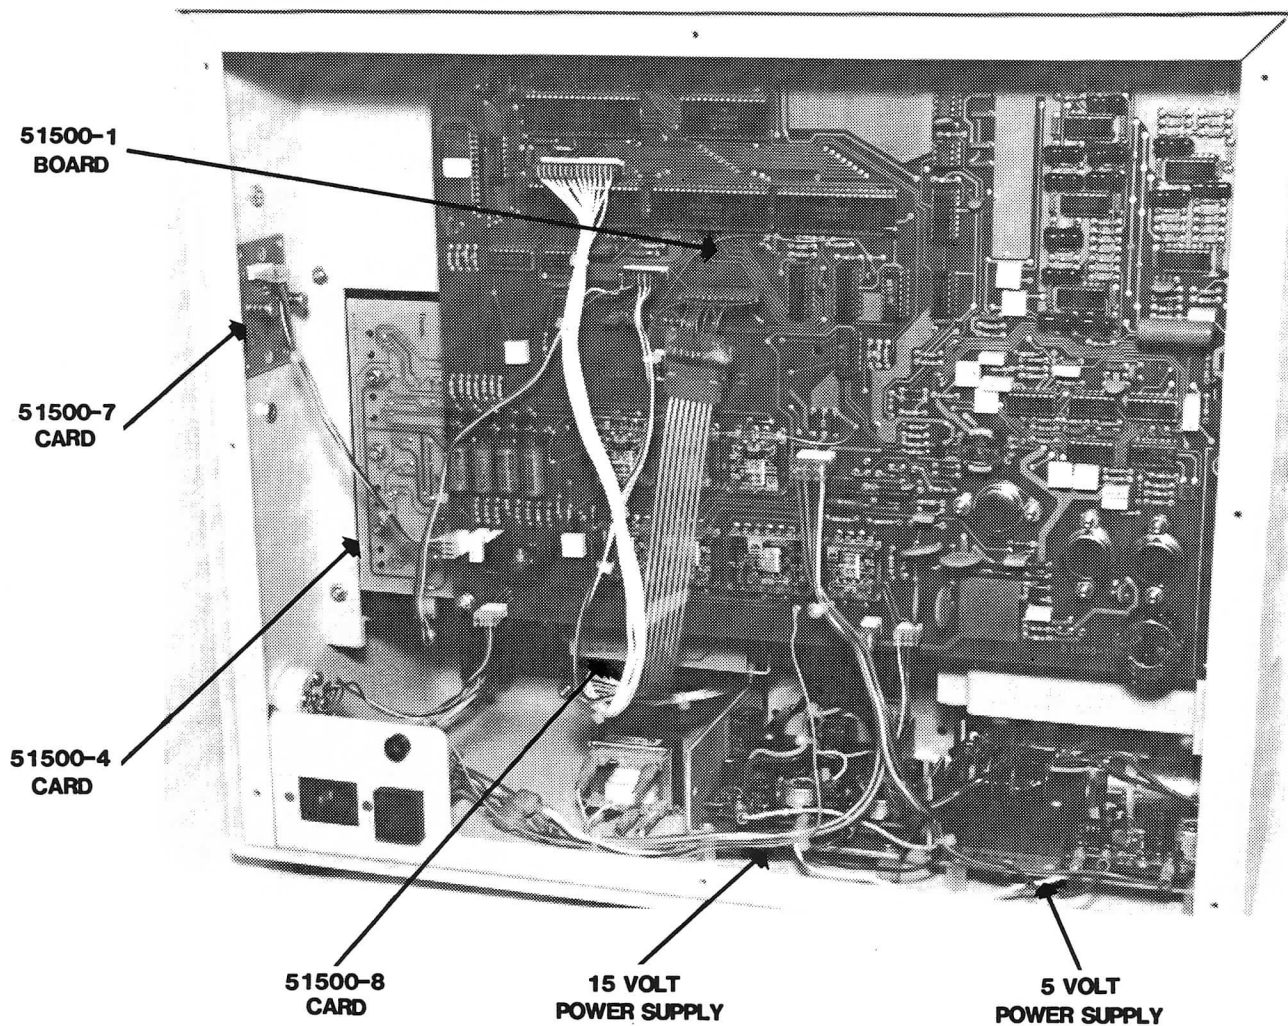

Figure 8. Locations of 51500 Circuit Cards and Power Supplies.
The procedures in this section detail steps for replacing parts in the 51500. Note that only those parts described in this section should be replaced. 51500 sets should be returned to the factory for suspected defective parts not defined for replacement in this section. Figure 8 shows the locations of the 51500 circuit cards and power supplies.
2. Remove the 51500 back cover (8 screws). Note the location of the 51500-4 card in Figure 8.
3. Note the location of the 51500-7 card. See Figure 8. Remove the cable from P19 on the -7 card.
2. Perform the 51500-1 Main Board Replacement Procedure in Section 6.3.2. (It may not be necessary to remove all cables connected to the 51500-1 board. Remove cables only as necessary to gain access to the -8 card. See Figure 8 and CLD-51500, sheet 4, for cabling on the 51500-1 board.)